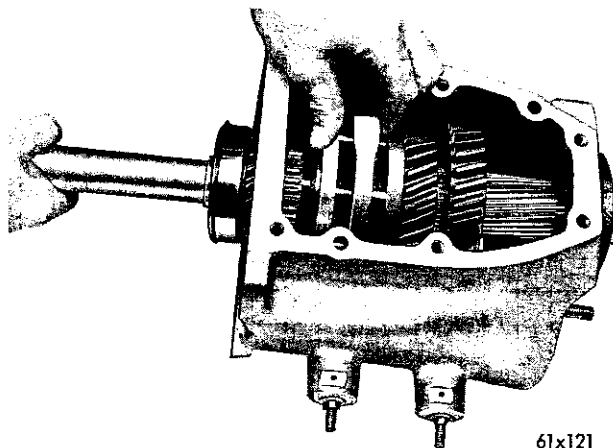

Fig. 3—Removing the Drive Pinion Assembly
- (1) Remove the bolts that attach the main drive pinion bearing retainer, then slide the retainer off the pinion. Discard the gasket and drive the seal out of the retainer, using a suitable drift.
- (2) When removing the drive pinion and the bearing assembly from the transmission case, slide the synchronizer front inner stop ring from the short splines on the pinion as the assembly is being removed from the case, as shown in Figure 3.